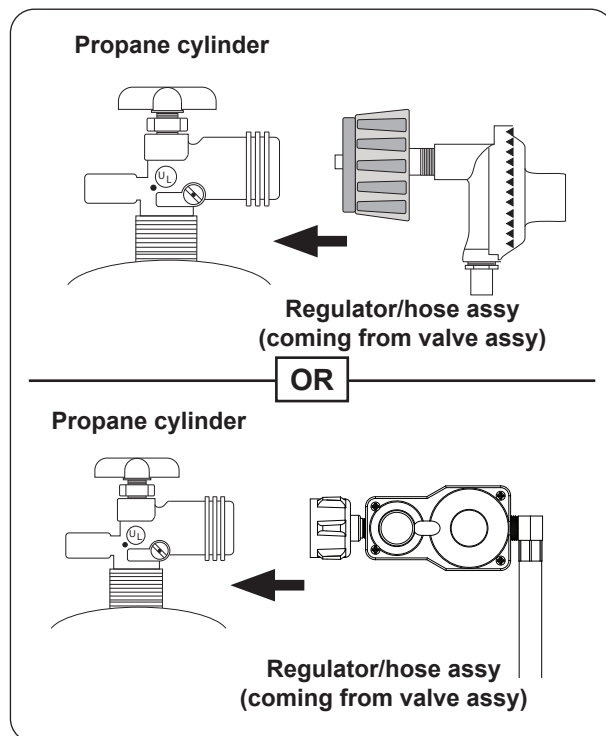

Fig. 31-1 Connecting to an L.P. cylinder
2. Attach the regulator end of the hose assembly to a propane cylinder (not included) and tighten (see Fig. 31-1).